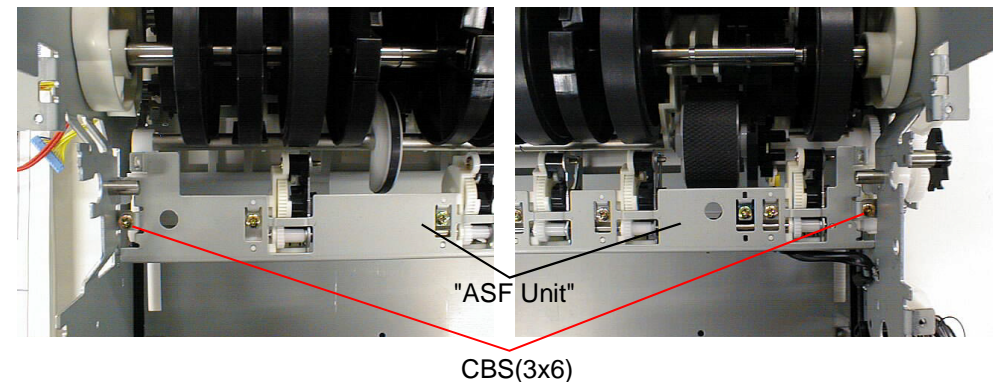

Figure 4-59. ASF Unit Removal
3. Remove 2 CBS screws(3x6) securing "ASF Unit" to "Frame, Middle, Left/right", and remove "ASF Unit". (Refer to Figure4-59)